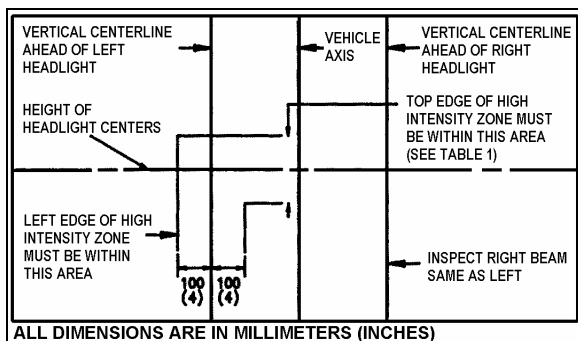

FIGURE 50: AIM INSPECTION LIMITS FOR LOWER-BEAM HEADLIGHTS 06506
8. The inspection limits in the vertical direction for low-beam headlights or the low beam of a dual-beam headlight, shall be as described in Table 1. In the horizontal direction, the left edge of the high-intensity zone shall be located from 10 cm (4 inch) left to 10 cm (4 inch) right of the vertical centerline of the beam. The viewing screen shall be located 7.6 m (25 ft.) in front of the vehicle (Figure 50).